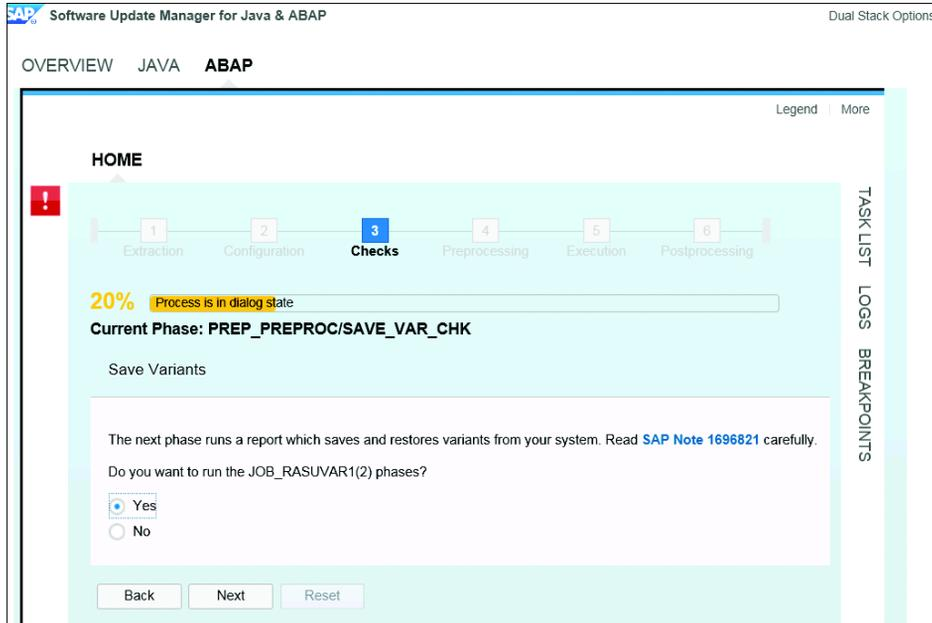

Figure 58 Save Variants Background Job
2. Next, decide whether you want to execute the job that converts the variables that are contained in your system. Review SAP Note 1696821- Technical Documentation: ASU Regarding Variant Restorer Functionality in Detail, and make your own decision. In this case, we chose to run the job as we are not concerned with the runtime of the upgrade. When finished, click NEXT (see Figure 58).